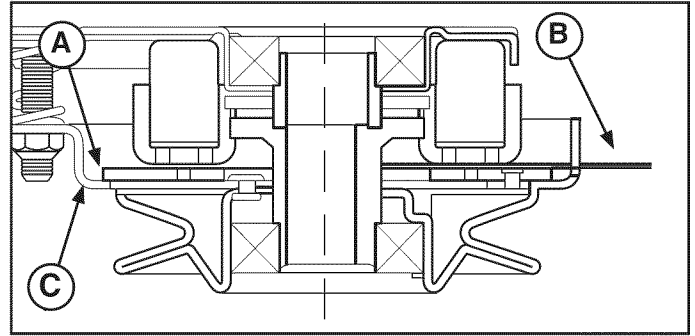

Figure 27
3. Insert a 0.012 - 0.015 in. (0,30 - 0,38 mm) feeler gauge (C) through each window, positioning the gauge between the rotor face and the armature face as shown in Figure 27.